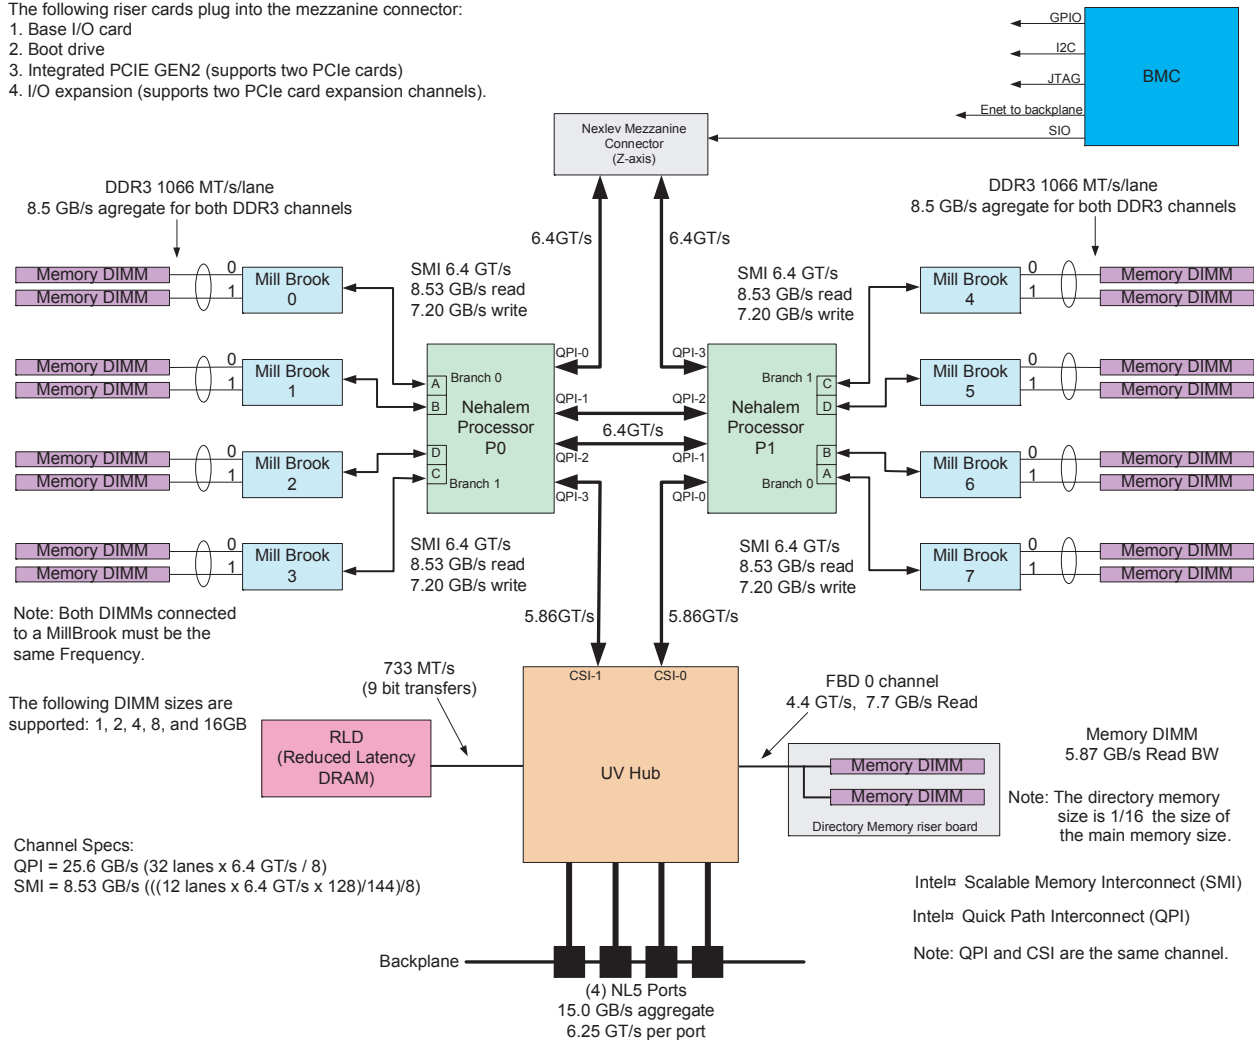

Figure 3-4 Blade Node Block Diagram
- If a processor accesses memory that it is connected to on a compute node blade, the memory is referred to as the node’s *local memory*. Figure 3-4 on page 40 shows a conceptual block diagram of the blade’s memory, compute and I/O pathways.